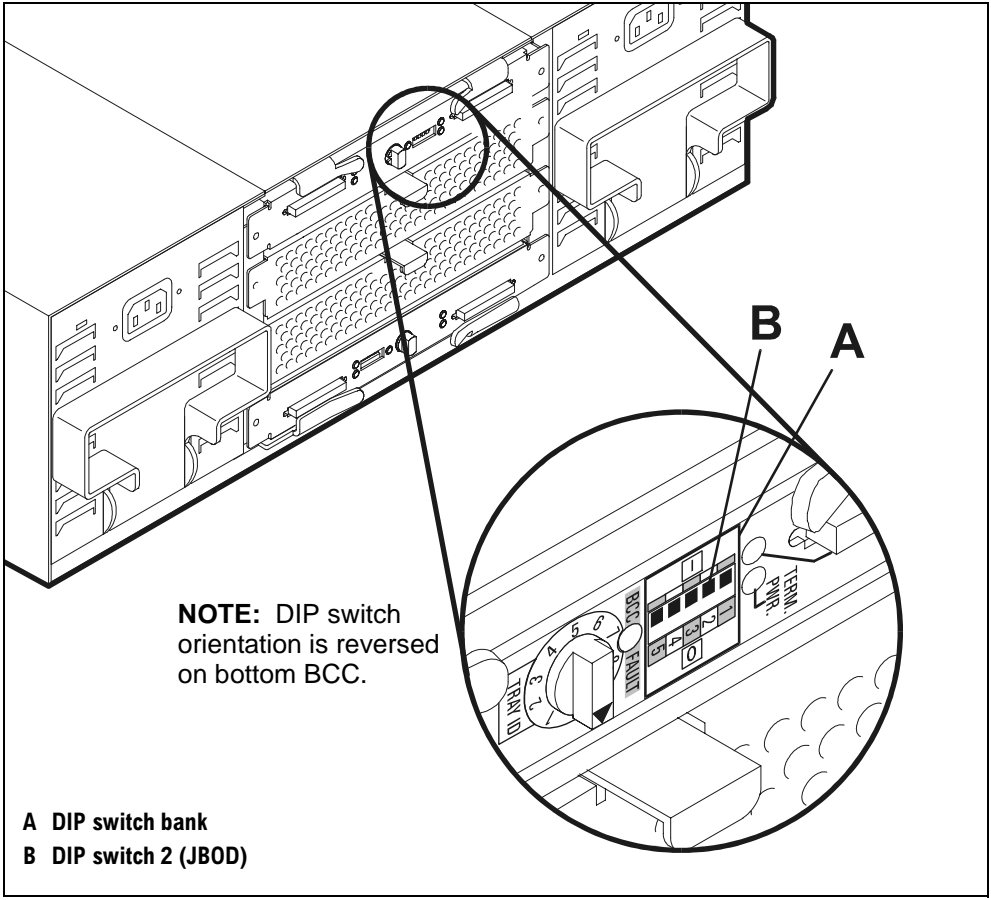

Figure 28 BCC DIP Switches
BCCs are shipped from the factory with all DIP switches (A in Figure 28) in the “I” position. The pull-out label on top of the disk system identifies each switch position.
1. Make sure that switch 2 (B in Figure 28) is in the “I” position (JBOD operation). This position configures the disk system to be connected to a host.